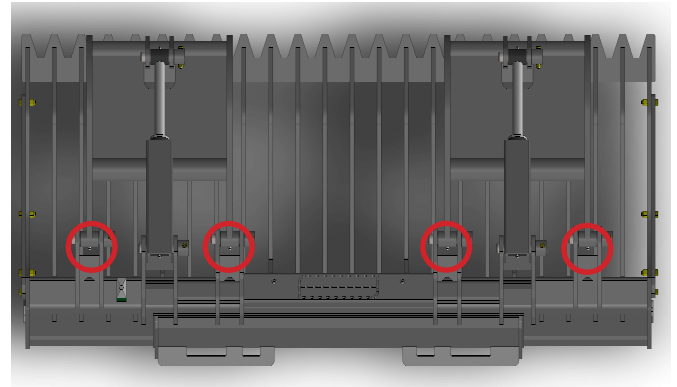

Figure 1
The Standard Duty Rock Bucket Grapples have four (4) grease points. These points are circled in Figure 1.